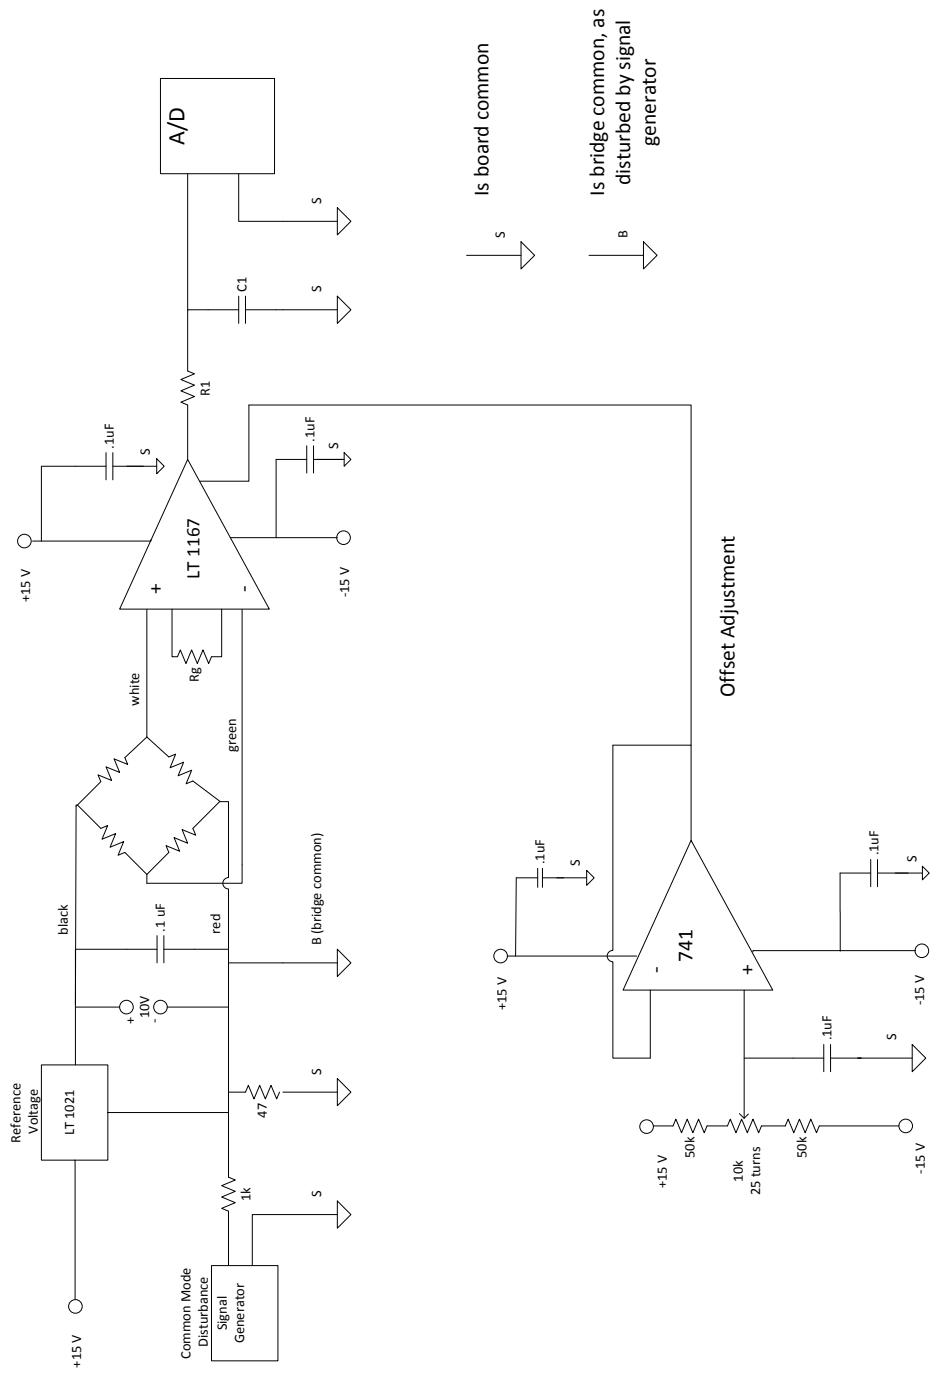

Figure 1: Scale interface circuitry
The scale mechanism uses a full-bridge strain gage circuit attached to a beam which supports the scale weighing platform. The circuit used for interfacing with the electronic scale is shown below in Fig. 1. Note that in this circuit, we use the letter S to indicate the myRIO board common, and the letter B to indicate the common for the strain gage bridge. This bridge common is driven by the signal generator to create an artificial common-mode disturbance, which is reflected in the common-mode of the bridge output voltages.
6. **Common-mode rejection:** Assume the nominal LT1167 Common-Mode Rejection Ratio (CMRR) versus frequency frequency response plot shown at the top of page 9 of the data sheet. Note that you will need to pick a curve appropriate to the gain value selected above. With respect to the scale circuit of Fig. 1, further assume that the signal generator input is a ± 10 volt square wave. What is the predicted output versus time of the LT1167 amplifier under these conditions? You may assume that the 10 V reference has *perfect* power supply rejection ratio. That is, you may assume that the 10 V reference maintains exactly 10 V despite the common mode disturbance driven by the signal generator. What we are looking for here is the predicted step response of the amplifier circuit to the common-mode disturbance. Note that you will need to fit a dynamic model using the data given in the data sheet. Also note that the common-mode rejection ratio *drops* with increasing frequency, that is, the rejection is *worse* at higher frequencies. Your dynamic model will need to take this into account. Show your thinking and relevant calculations.